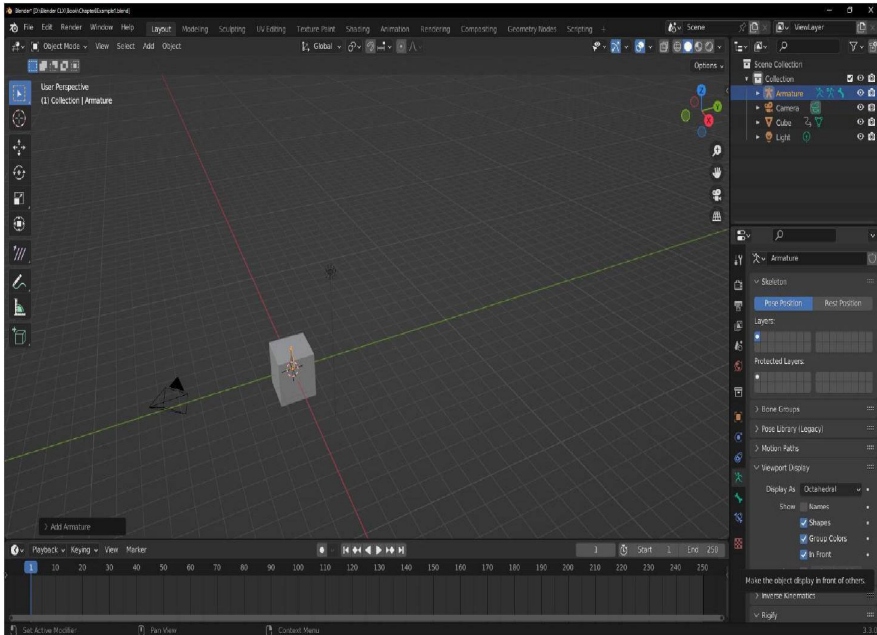

Figure 8.11: Enabling the In Front Viewport Display option on the Armature object
14. In the **Object Data Properties** tab of the **Properties** panel for the **Armature** object, expand the **Viewport Display** section and check the box for **In Front** as shown in *Figure 8.11*: